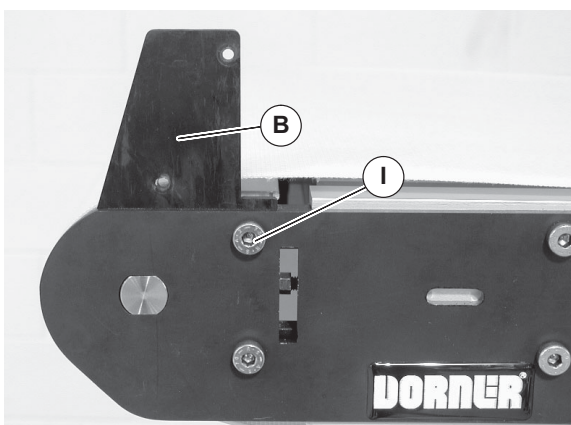

Figure 6
- Replace with new spacer plates (Figure 6, item B). Insert screw (I) hand tighten.